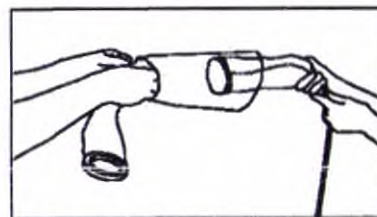

Figure 1
(2) The operator in the sterile area holds the sterile cover and the operator in the non-sterile area inserts the FLUOBEAM 800 optical head inside the sterile cover as shown in Figure 1.